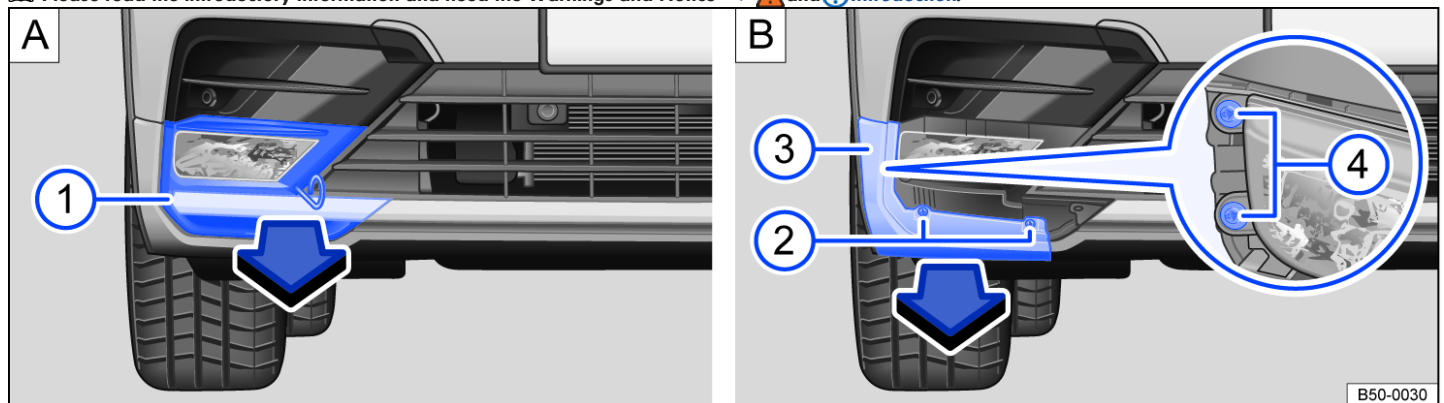

Fig. 175 In the right side of the R-Line front bumper: removing the fog lights.
3. Attach the extraction hook in the opening on the cover below the fog lights *fig. 175*  . Pull the cover forward in the direction of the arrow *fig. 175* .